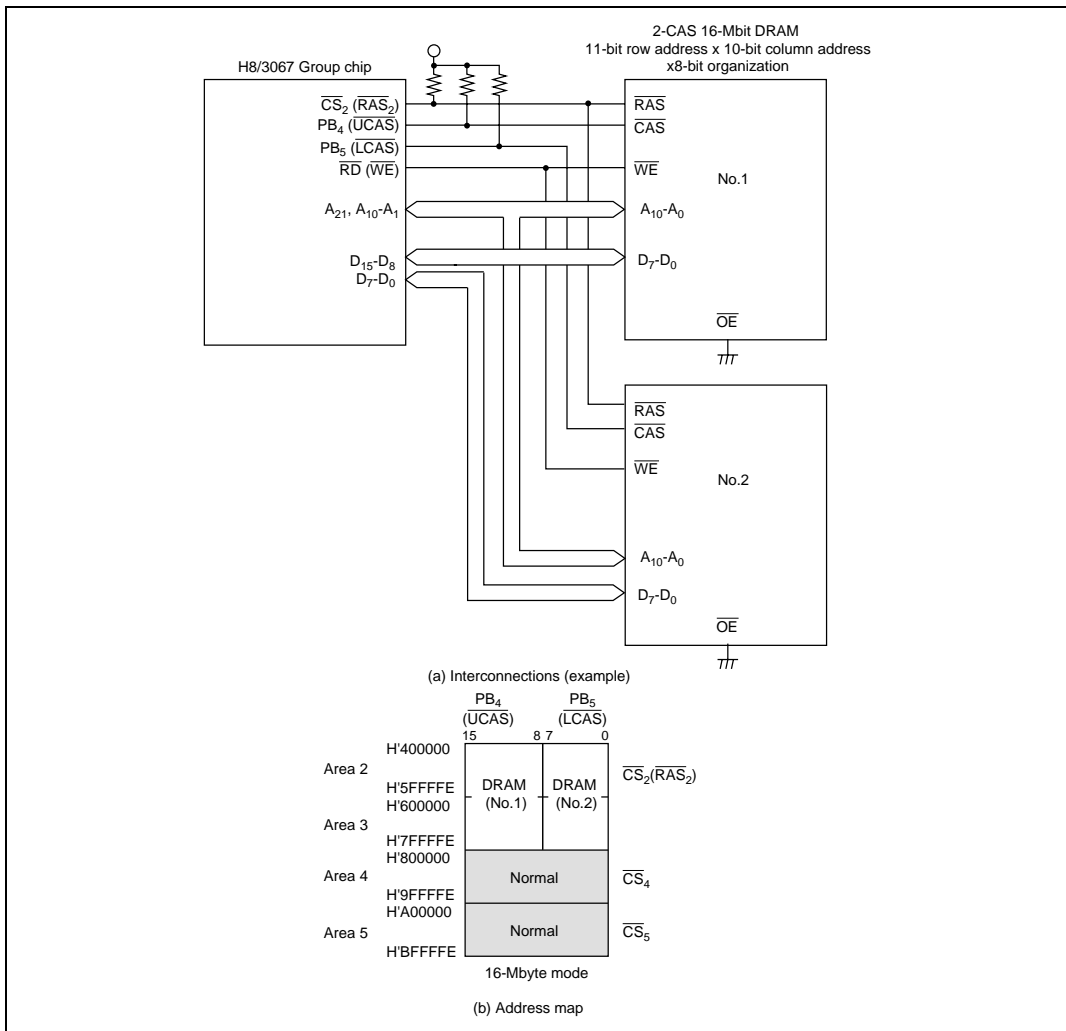

Figure 6.32 Interconnections and Address Map for 16-Mbit DRAMs with $\times 8$ -Bit Organization
- Figure 6.32 shows typical interconnections when using two 16-Mbit DRAMs using a $\times 8$ -bit organization, and the corresponding address map. The DRAMs used in this example are of the 11-bit row address \times 10-bit column address type. The \overline{CS}_2 pin is used as the common \overline{RAS} output pin for areas 2 and 3. When the DRAM address space spans a number of contiguous areas, as in this example, the appropriate setting of bits DRAS2 to DRAS0 enables a single \overline{CS} pin to be used as the common \overline{RAS} output pin for a number of areas, and makes it possible to directly connect large-capacity DRAM with address space that spans a maximum of four areas. Any unused \overline{CS} pins (in this example, the \overline{CS}_3 pin) can be used as input/output ports.